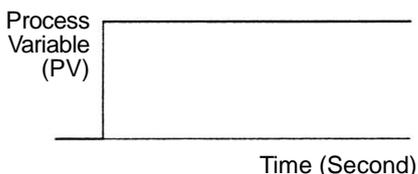

Figure 1. Process variable (PV) before PV filtering process
(3) Control Register +63: PV Filter Time Constant
The PV filter function is a software filter to stabilize the process variable (PV) affected by fluctuating processes, such as the pressure or flow rate, by calculating first-order lag of the process variable (PV). Even if the process variable (PV) changes as shown in the Figure 1, when the PV filter time constant is configured, the process variable (PV) changes as shown in the Figure 2. After the PV filtering process, the process variable (PV) reaches 63% of the process variable (PV) in T seconds.